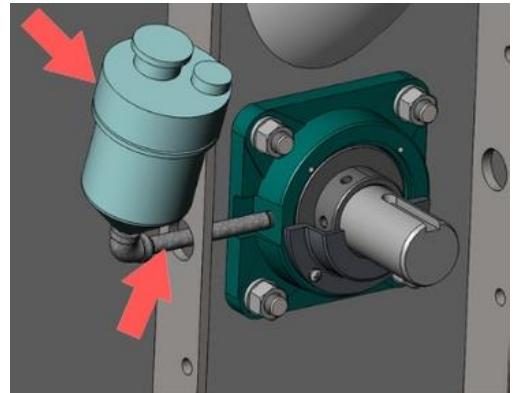

Figure 1
1. Remove the automatic lubricator and piping from the bearing. See Figure 1